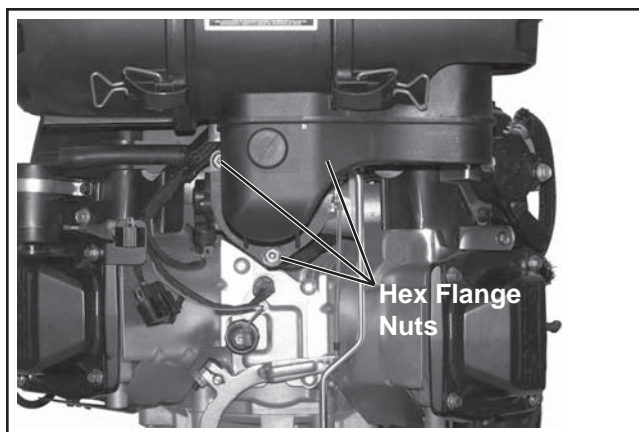

**Figure 4-4. Ejector Area.**
5. Check all parts for wear, cracks, or damage, and make sure ejector area is clean. See Figure 4-4. Replace any damaged components.